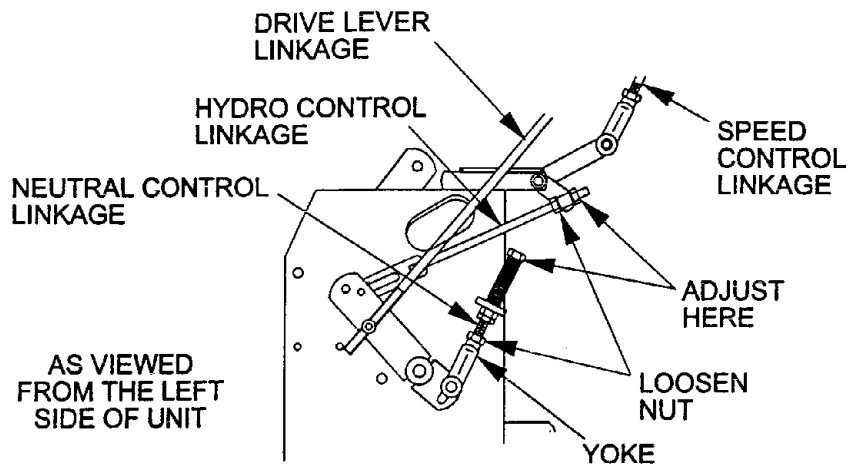
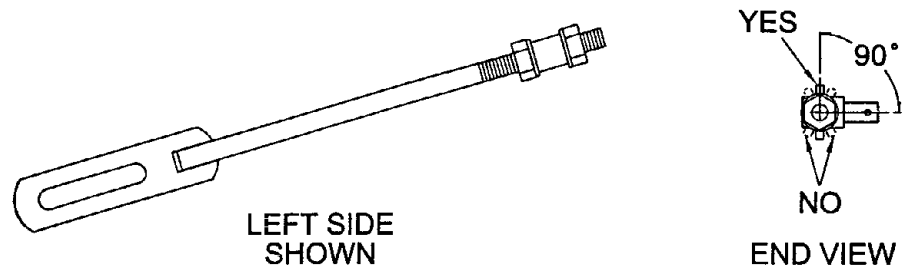

FIG. 9
FIG. 10
4. Loosen the nut against the yoke as shown in Figure 9.
2. Loosen the front nut on left hydro control link as shown in Figure 9. Turn the rear control linkage adjusting nut counter-clockwise until wheel rotates forward). Turn the rear nut of left control link clockwise 1/6 of a turn at a time, stopping to move the speed control forward and back to neutral, until left wheel stops rotating forward. Turn the nut an additional 1/2 turn and tighten the front jam nut making sure not to put a bind on the linkage. Make sure flat part of linkage is perpendicular to pin part of swivel. See Fig. 10.